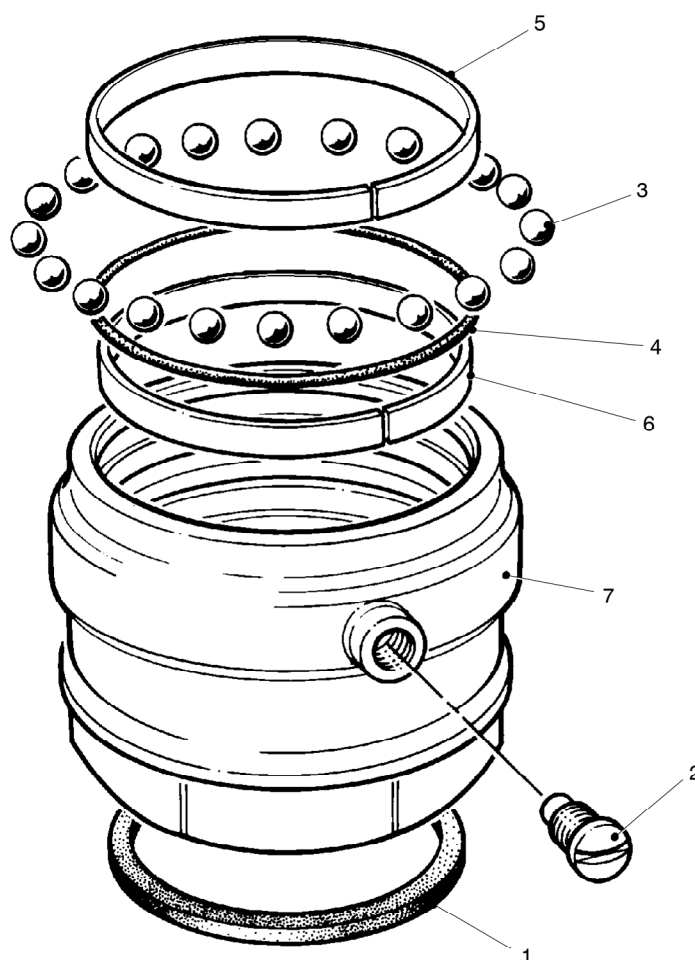

Fig 5.5 Swivel hose connector
The swivel hose connector (Fig 5.5) has 40 steel balls, instead of the 39 found in the nozzle and surge controller swivel couplings.
- 4.5.6 Assemble adaptor to hose connector. If a swivel connector (Fig 5.5) is used, feed the 40 balls (3) through the hole in the hose connector. Secure with the ball retaining screw (2), using Loctite (Item 5) on the threads.
7 STANDARD SWIVEL HOSE CONNECTOR (Fig 5.5)